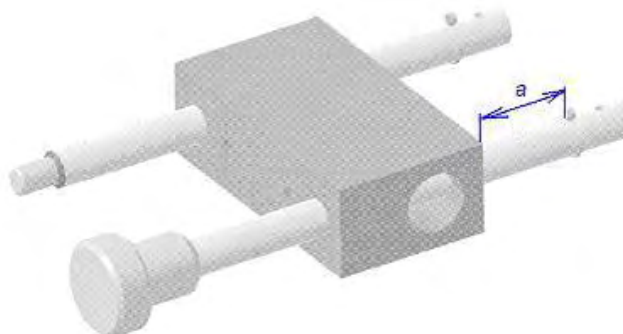

Fig. 6
- Check the control handle for operation per item 2. If positive, continue with item 6.
- Mark length on the handle it can be pulled more (distance a from the bracket to the cotter-pin in the handle). Fig. 6.